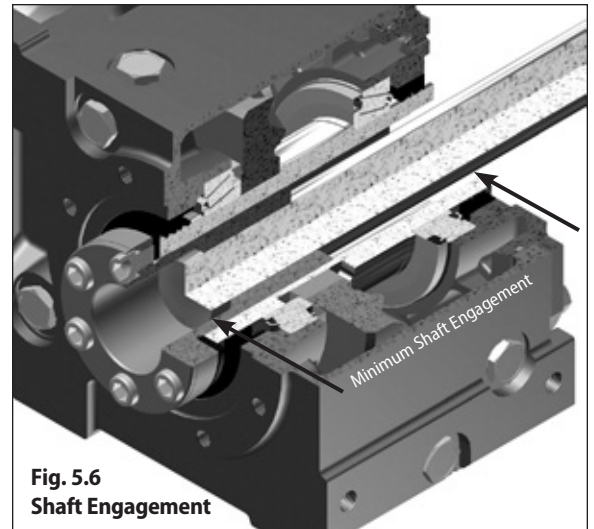
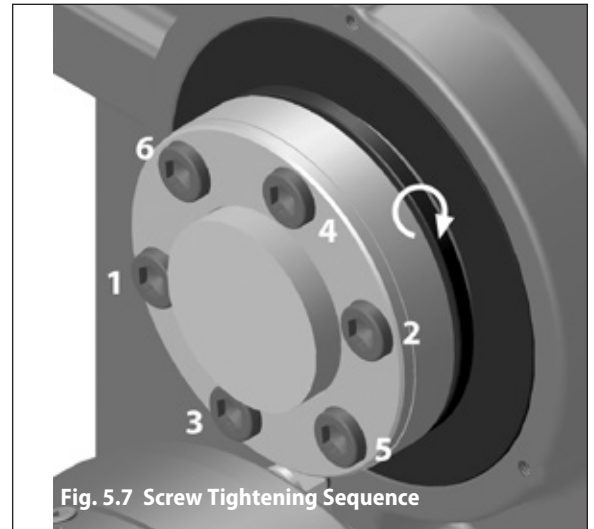

Fig. 5.6 Shaft Engagement
Fig. 5.7 Screw Tightening Sequence
Step 8 – Position unit with the bushing flange located on the outboard side of the unit. Align the bushing with the driven shaft. Slide the unit onto the driven shaft as close to the driven shaft support bearing as possible. Ideally, the driven shaft should extend beyond the bushing flange face (see Fig. 5.7). Refer to Fig. 5.6 and Table 5.17 below for minimum shaft to bushing engagement.
Step 9 – With a torque wrench, gradually tighten the capscrews in 20% increments to engage the bushing system. Use the appropriate tightening pattern (“star-pattern” see Fig. 5.7) to assure complete bushing engagement. Tighten each capscrew to the torque values shown in Table 5.18.